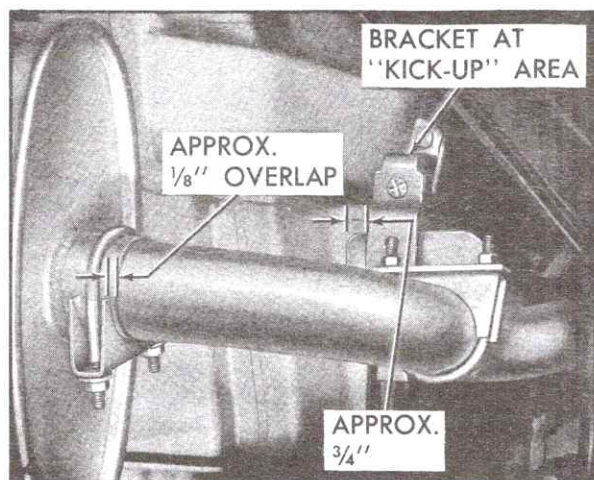

Fig. 8-3 Muffler Outlet Pipe at Kick Up Area
4. Remove clamp and hanger blade at support bracket located above rear axle at "kick-up" area, Fig. 8-3.